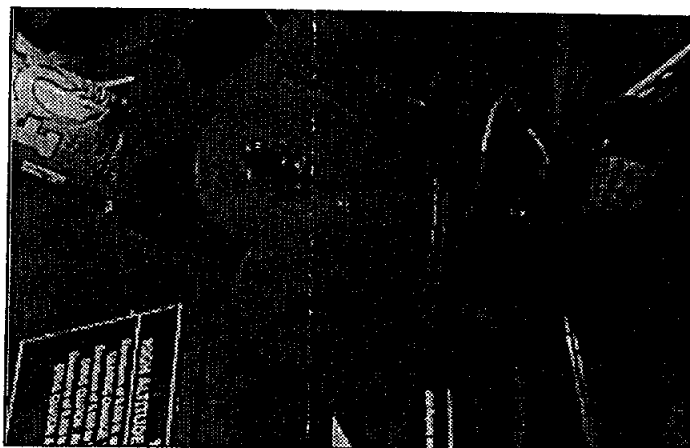

Figure 5
**NOTE:** Shown is an EFI model (if you have a choke in this location, you can use the circular molded area to the left). Measure approximately 1" down from the center of the toggle switch and make a mark. Carefully drill this hole out with a 3/16" drill (Fig.4). Take the small indicator LED and push it from the back through the hole until the LED lip is flush with the back mounting surface. **NOTE: MAKE SURE THAT YOU PUSH THE LED THROUGH THE HOLE BY PUSHING ON THE LED BODY ITSELF. NEVER PUSH THE LEDs THROUGH THEIR MOUNTING HOLES BY PUSHING THE WIRING** (Fig.5). Silicone can be applied to the back of the LED to bond it in place if so desired.